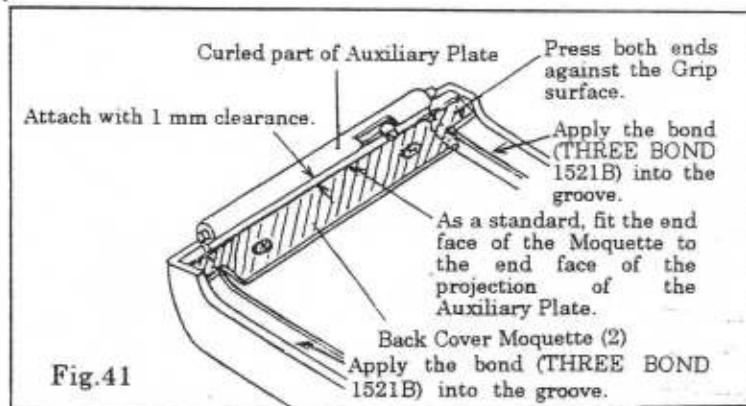

Fig.41
- e) Stick the Back Cover Moquette (2) (1AS17210) in a manner as shown in Fig. 41.
- f) Apply the bond (THREE BOND 1521B) into the groove in the Back Cover. Immediately after applying the bond, attach the Back Cover Moquette (7) (1AS17700) and Back Cover Moquette (6) (1AS17600), starting at ④ end of the Back Cover. Ensure that the other ends of the Back Cover Moquette (7) and Back Cover Moquette (6) are in contact with the Back Cover Moquette (2).